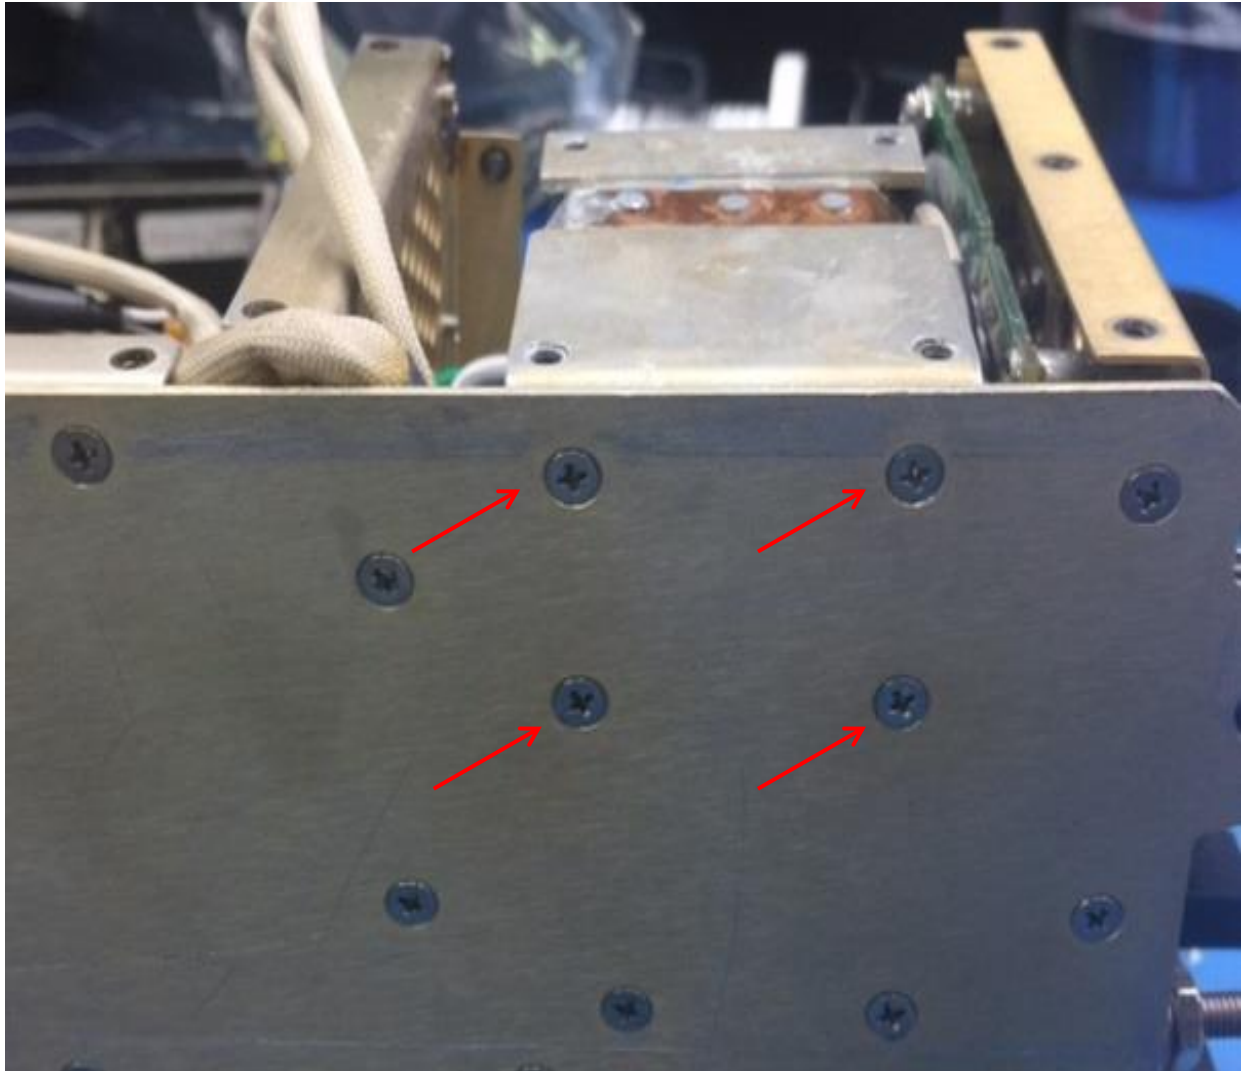

Figure 19
18. Assemble transformer (1-005-0701-0470) to the base plate (1-002-0117-0097) using (4) screws (24693-C2). (Figure 19).